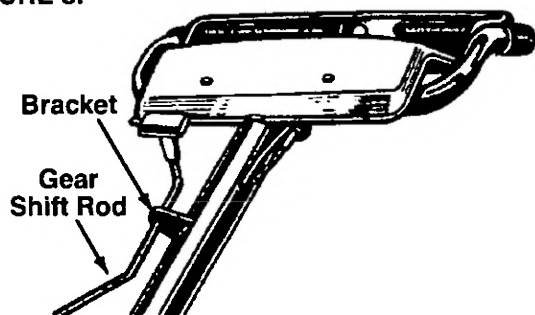

FIGURE 4.
1. Remove the hairpin clip, flat washer and rubber washer, and T-knob from the end of the gear shift rod. Slide the rod up through the bracket on the front of the handle assembly. Reinstall the T-handle. See figure 4.